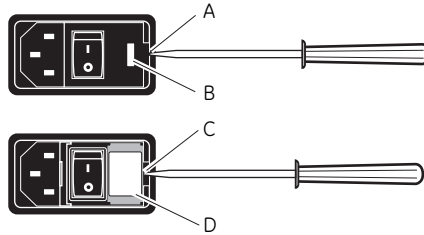

Figure 5-2. Opening the fuse box of the Storm instrument.
- 2 Place the end of the small flathead screwdriver into the small groove (Fig 5-2 A) to the right of the fuse window (Fig 5-2 B), and pry to open the fuse box.
- 3 Place the screwdriver in the small groove (Fig 5-2 C) to the right of the fuse holder (Fig 5-2 D) and pry out the fuse holder. When the holder is loose, pull it out of the fuse box.